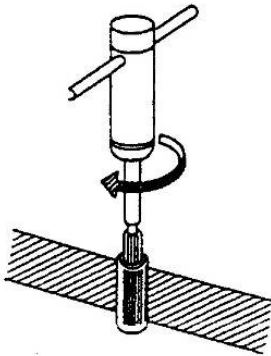

Figure 4-19: Valve Guide Reamer (typical) 6.6 mm (0.2598 in.) shown
- See Figure 4-19. Ream the exhaust valve guide to remove the carbon deposits before measuring.